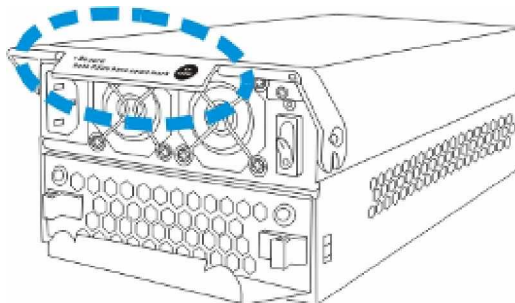

Figure 5-20: Label on the PSU Handle
- **Two (2) redundant PSU modules:** The FALCON III is preinstalled with two (2) 460W, fully redundant, hot-swappable PSU modules. These modules are located at the rear of the subsystem.
- **PSU printing mark:** Before you insert a new PSU, be sure that it has the same printing mark on its handle as that shown on the handle of a remaining PSU. Double-check to avoid mixing a PSU of previous FALCON series. (See *Figure 5-20*)